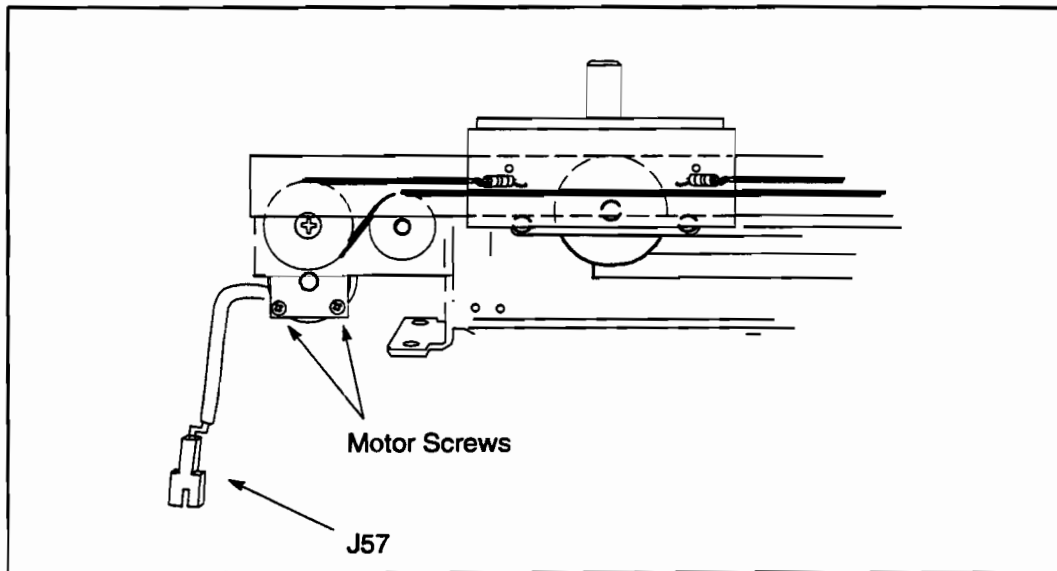

Figure 6-88. Y-axis Cutter Motor
2. Disconnect the wiring connector (J57) attached to the cutter motor. Refer to Figure 6-88.
3. Using a #1 Phillips screwdriver, remove the 2 screws shown in Figure 6-88 and remove the motor.